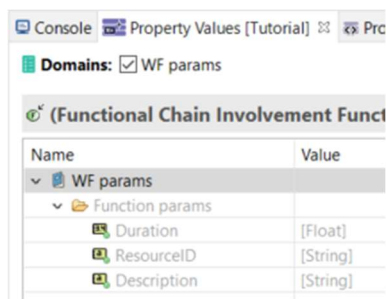

Figure 11 Property Values
- Close the Configuration PV tab and observe the parameters in the Property Values tab when clicking in a function (see Figure 11), a control node, or a link in the functional chain description.